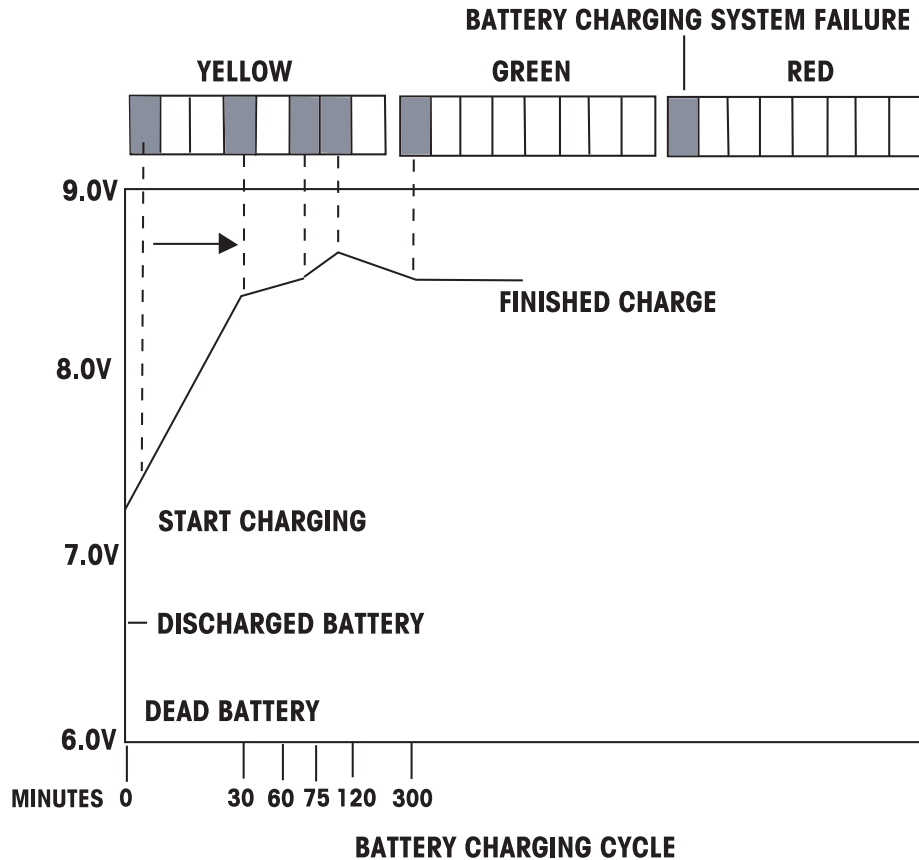

Figure 3-6. Typical Battery Charging Cycle.
1. Pre-charge, 2. Quick charge (fast charge), 3 Equalizing charge (top-off charge), and 4. Maintenance charge. The mode can be monitored when the Indicator is connected to a PC. The last displayed character displayed is the mode, it is also shown on the Indicator display see Figure 3-6.
If the battery is new and has never been charged, a one time extended time trickle charge is started, (this one time initial charge is shown by 2 yellow LED's). Figure 3-6 illustrates the bar displays during various charging modes.
2. Open the Front Housing, refer to procedure 4.1. Locate the Recharge Board as shown in Figure 3-6.